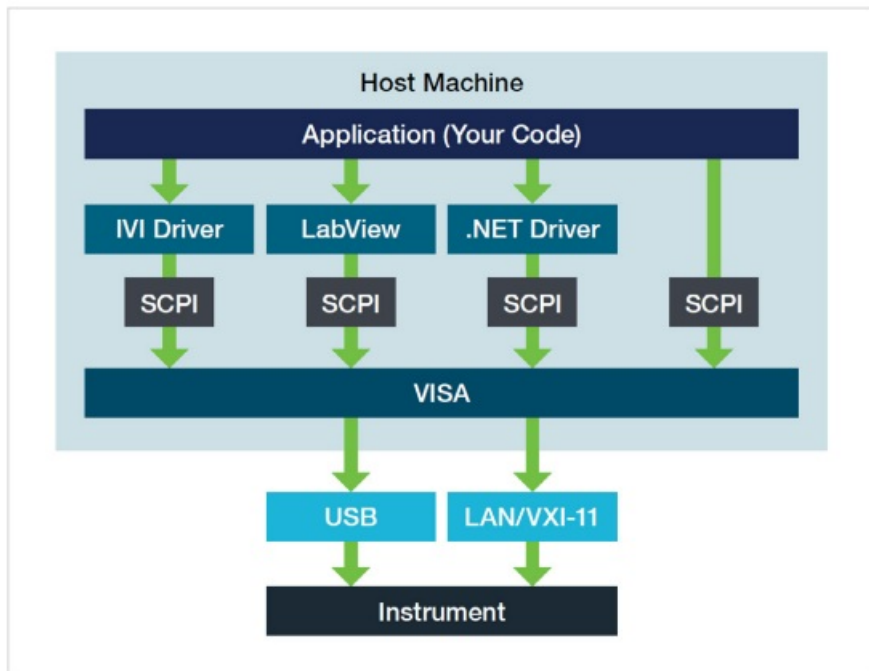

Figure 1: The programmable interface (PI) stack shows the flow of information between a host controller and instrument.
A programmatic interface (PI) is a boundary or set of boundaries between two computing systems that can be programmed to execute specific behaviors. For our purposes, it is the bridge between the computer that runs on every piece of Tektronix test equipment and the application written by the end user. To narrow this even further, it is a set of commands that can be sent remotely to an oscilloscope and the system on that oscilloscope that processes and executes them. The PI Stack (Figure 1) shows the flow of information from the host controller down to the instrument. The application code written by the end user defines the behavior of the target instrument. This is usually written in one of the development platforms popular in the industry, such as Python, MATLAB, LabVIEW, C++, or C#. This application will send SCPI (Standard Commands for Programmable Instrumentation) commands, which are the standard format for almost all test and measurement equipment, to the VISA layer. In some cases, the application will call a driver, which will then send one or more SCPI commands to the VISA layer.